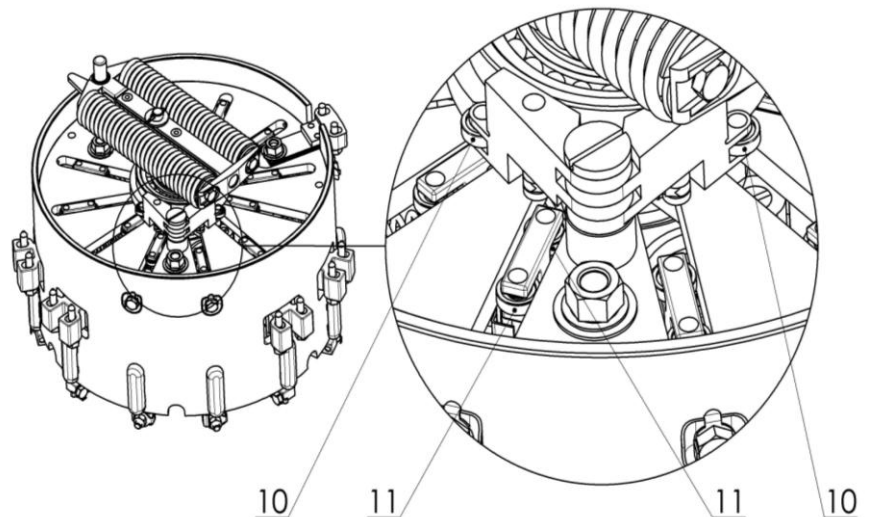

Fig. 7
- Check the condition of the bearings of the locking mechanisms (Pos.10, Fig.7 and the bearings of the moving contacts (Pos. 11).